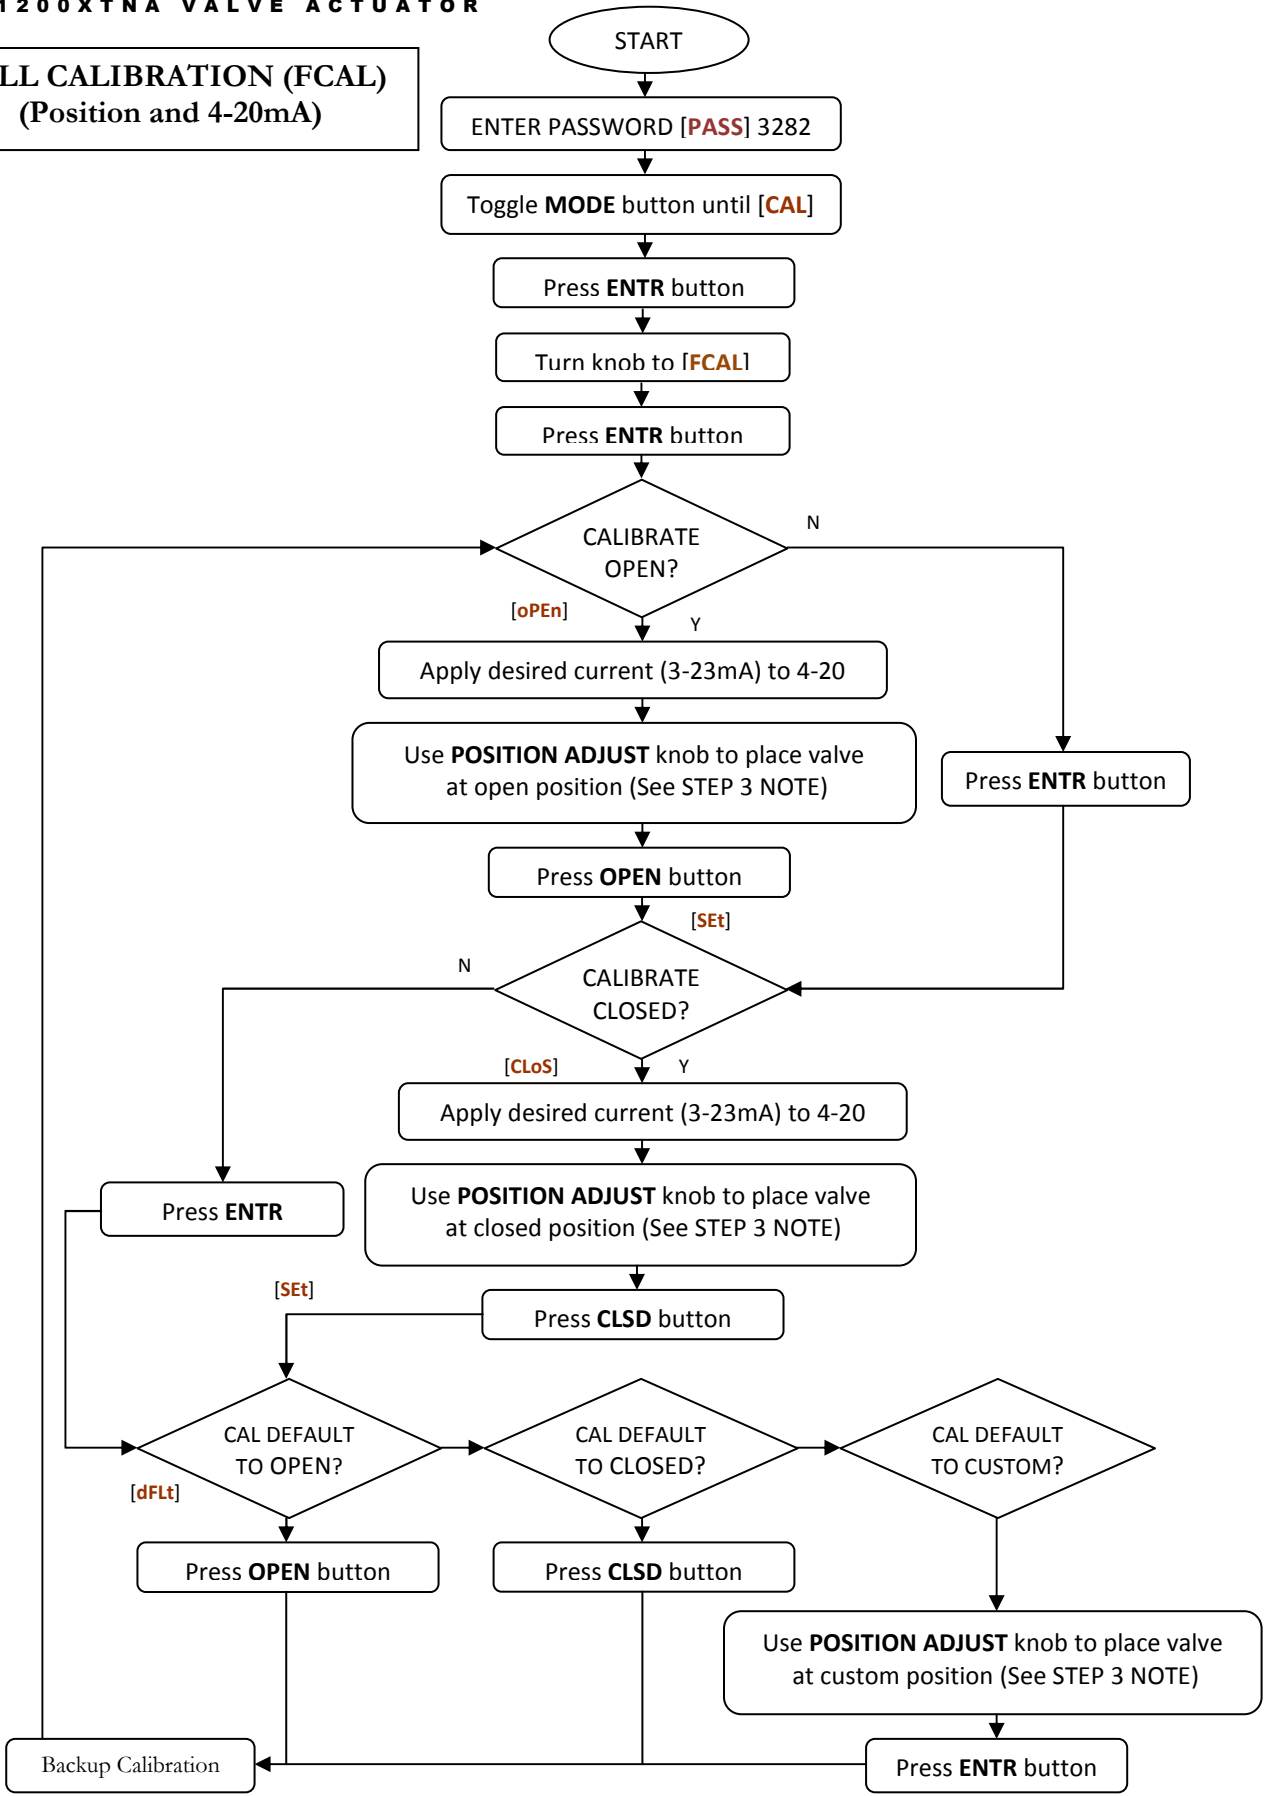

Figure 19
Step 8: When the display reads [**dFLt**], the unit is ready to calibrate valve default safe position in the event of an error event (e.g. undervoltage, or power failure). Press and release the OPEN button to set the default safe position to valve fully open. Press and release the **CLSD** button to set the default safe position to fully closed. Alternatively, turn the **POSITION ADJUST** knob to a desired position and press **ENTR**. Once, the **OPEN**, **CLSD**, or **ENTR** button is toggled, the unit will automatically calibrate the backup sensor. See *Backup Calibration Mode for more detail*. Once calibration is complete, and the display will show [**donE**] (Figure 19) and then revert back to [**FCAL**] after two seconds. The unit may be recalibrated at any time. See next page for FULL CALIBRATION Flowchart.